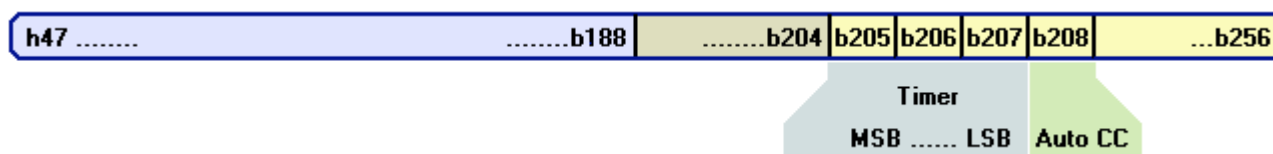

Figure 6.2
The Output Inserter modules can perform TS Generator functions as well, so the data of the set-top box refreshing software, data streams of pictures and movies, etc., can be programmed in the storage as well. The SW-4952 software use only the 1 ... 3 modules of the Output Inserter for creating the PAT, PMT, SDT and NIT tables, and switch off the others; they are available for the user. In the basic state the software shows only the controls of these three modules, the other modules can be recalled from the View menu. The software automatically creates the programs belonging to the tables, but the check boxes of the 'User Defined Pgm' allow at the 12 modules, for the user loading the program of his own. The program of the Output Inserter modules consists of 256-Byte packets. Before loading, the software saves the program to be loaded in 256-Byte and 188-byte formats as well. The 256-byte format will be saved in 'Oins105.doi' (Output Inserter-1/05. module) form, the name of the 188-byte format is the same, but its extension is 'ts'. The first 256 bytes of the 256-byte format is the header and then the packets can be found as shown in Figure 6.2.
The loaded program can be edited freely. In the 256-byte rows the timing and control data are shown as in Figure 6.2. After the modifications the data processing starts on clicking the 'Compile' button. At the end of the program the Compiler clears the whole row. If the user clears the initial h47, then the erroneous data will be replaced with hFF.
3. Before loading the program of the PSI Inserter is saved in separate files assigned to the 12 Output Inserters. The automatic saving comes to the Oins101.doi ... Oins412.doi files. The content of the file consist of 256-byte units. At this format also the first 256 bytes comprises the header data, and then the 256-byte units of the loaded program follow. The 256-byte units of the loaded program comprise the packets of 188-byte or 204-byte to be sent out, and the timing data and the CC controller as shown in Figure 6.2. The header identifier: 'CABLEWORLD LTD. PSI Program-1, followed by the identifier of the module performing saving.